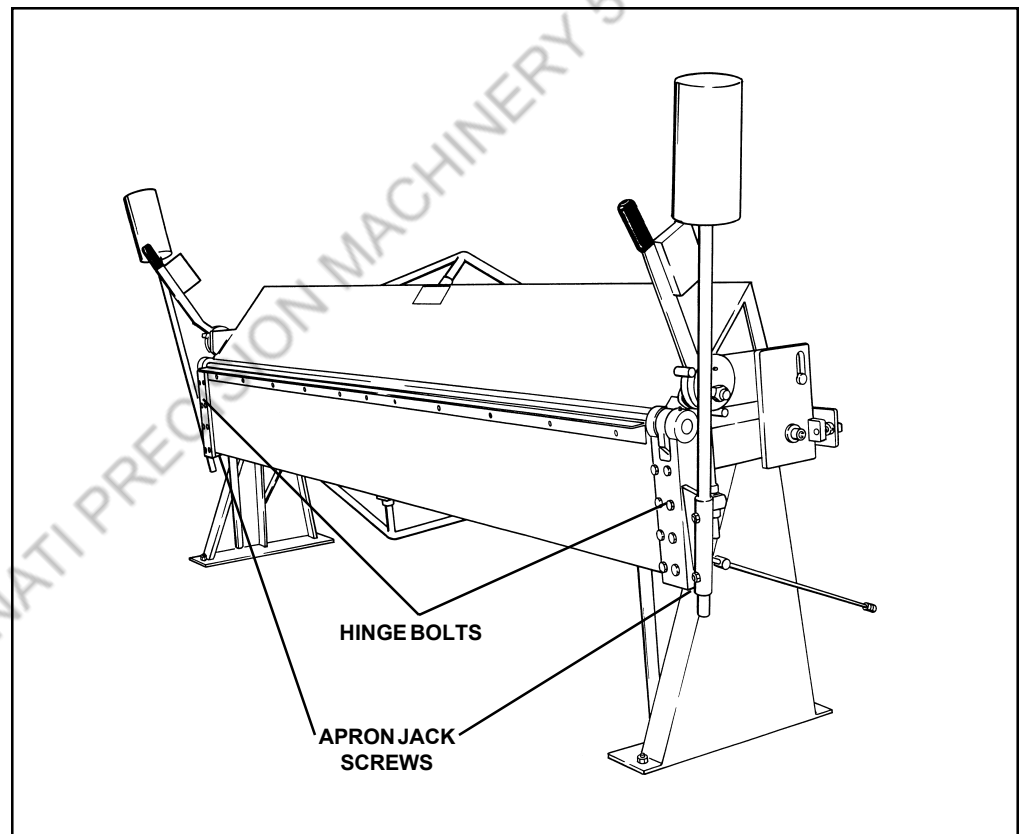

Figure 13. Apron Adjusting Components.
4. Check the top edge of apron in relation to the top surface of the bed. The top edge of apron must be 1/64-in. below the top surface of the bed at each end. If not, loosen the hinge bolts and adjust the apron up or down using the apron jack screws (see Figure 13). After the apron edge is adjusted to the proper position, be sure to retighten the hinge bolts.